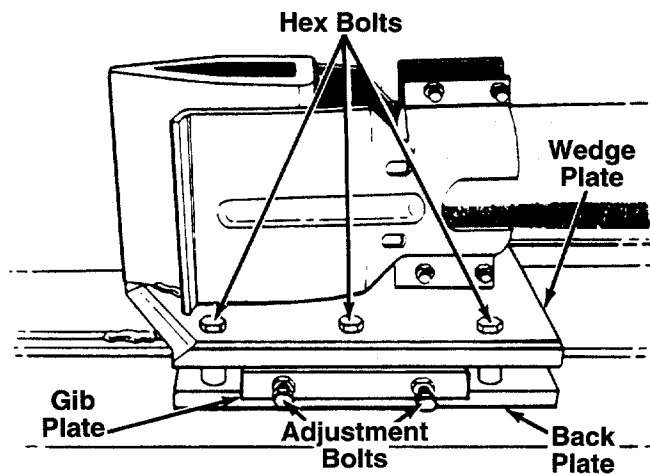

FIGURE 17.
As normal wear occurs, periodically adjust the bolts on the side of the wedge plate as follows to eliminate the excess space between the wedge plate and the beam. See figure 17.
1. Remove the center bolt on top of the wedge plate. Slide the gib plate out. See figure 17.